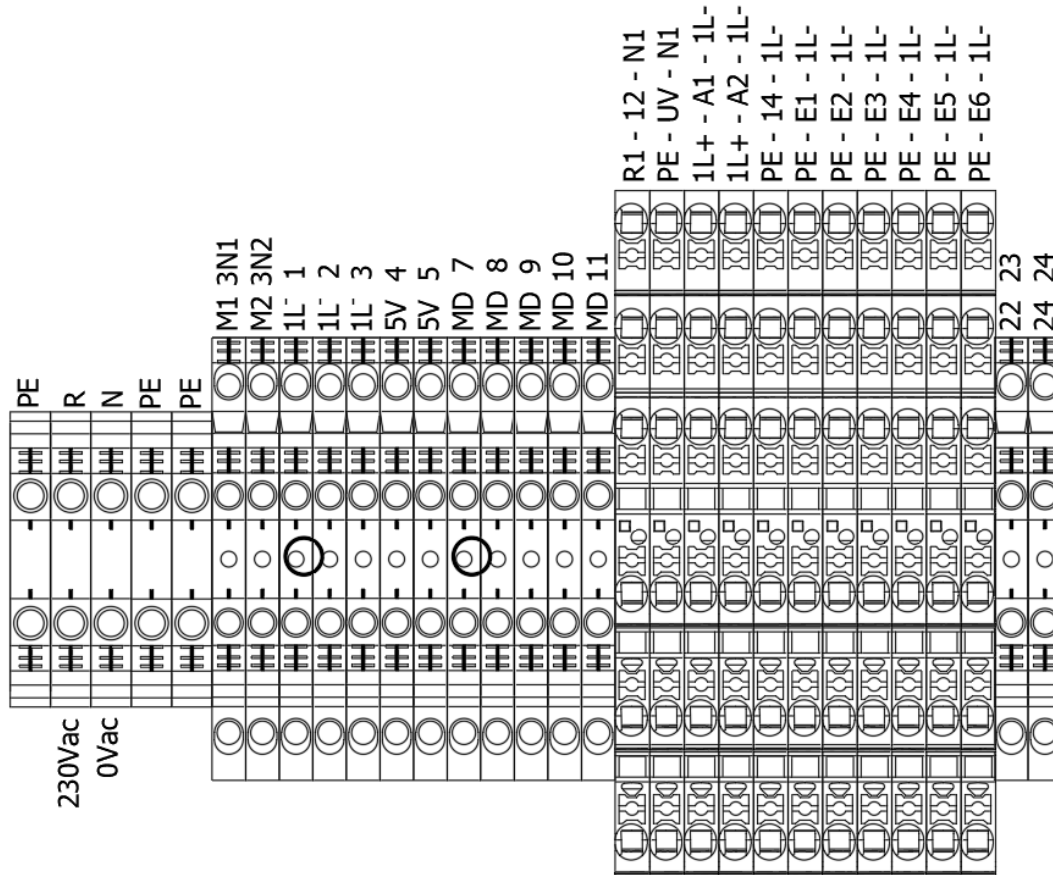

Figure 6.1: Connection terminal blocks
1) Connection of standard accessories to terminal block X1. See *figure 6.1*.